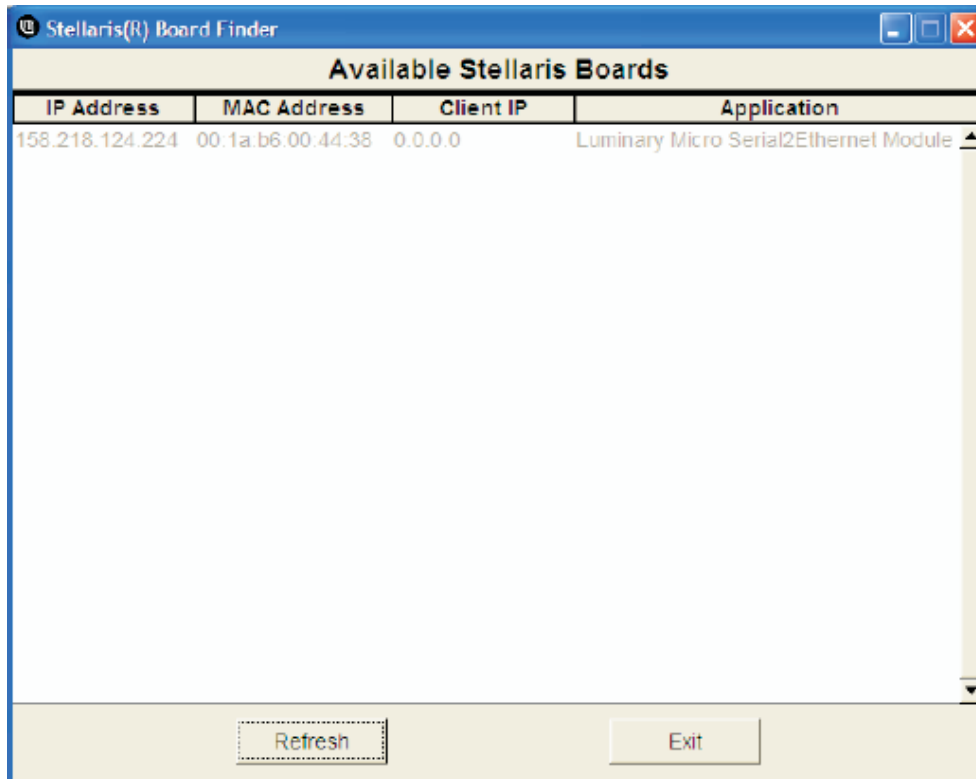

Figure 4. Finder Tool View
- (a) Double click on the *finder.exe* icon. The finder utility starts and you should see the S2E module in the list of available Stellaris boards similar to Figure 4.